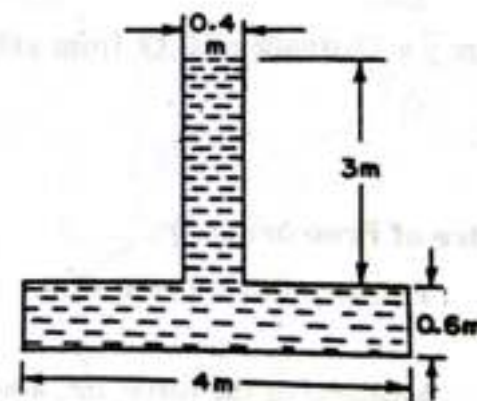

Fig. 3.17
**Problem 3.13.** Fig. 3.17 shows a tank full of water. Find :